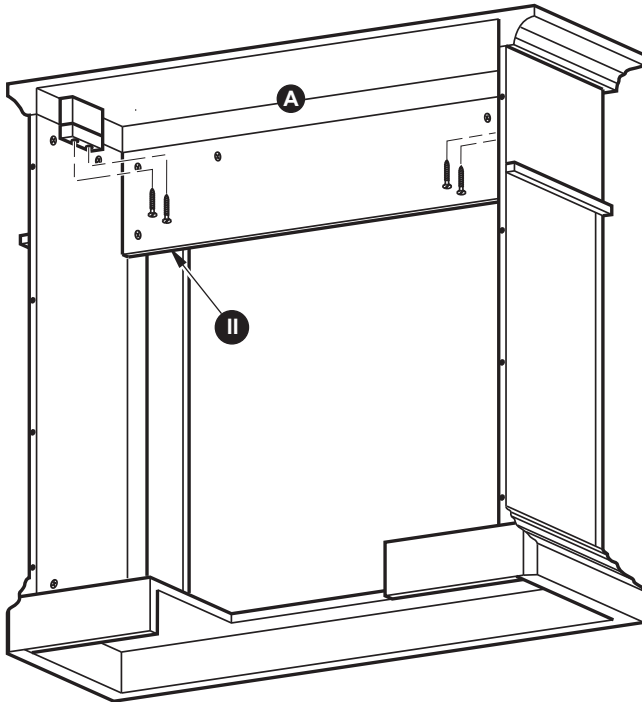

Figure 5
5. Fasten the wooden support brackets attached to the top of the mantel assembly to the Top (A) with ST4 Screw 1 9/16" (II) as shown in Figure 5.